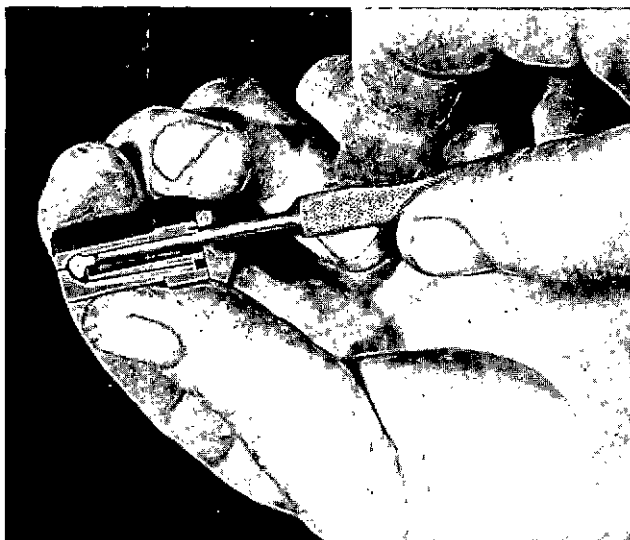

Figure 106
3. The inside of the nozzle body can be cleaned with brass scrapers included in the cleaning kit or if these tools are not available, by forming a piece of soft wood, soaked in oil, with a point corresponding to the nozzle valve seat angle. Clean the nozzles with a wood splinter. Figures 106 and 107: